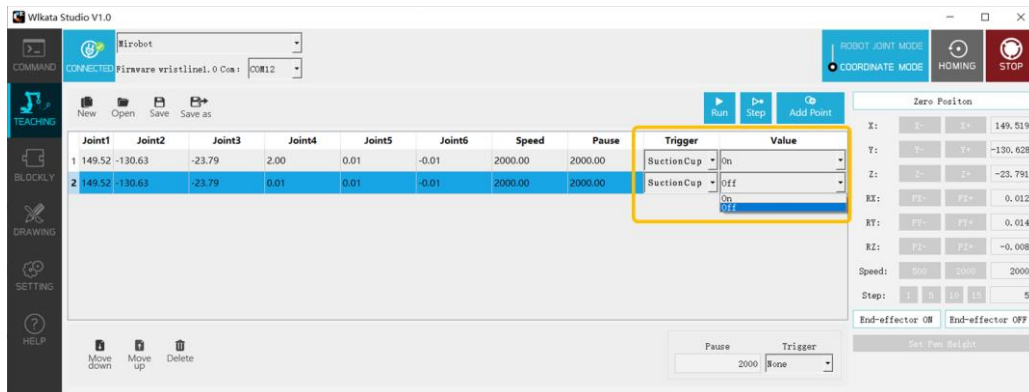

Figure 3.41 Controlling the pneumatic tool in the TEACHING function
- In the TEACHING page, control the pneumatic tool by editing the **Trigger** cell and **Value** cell of the teaching point line. Figure 3.41